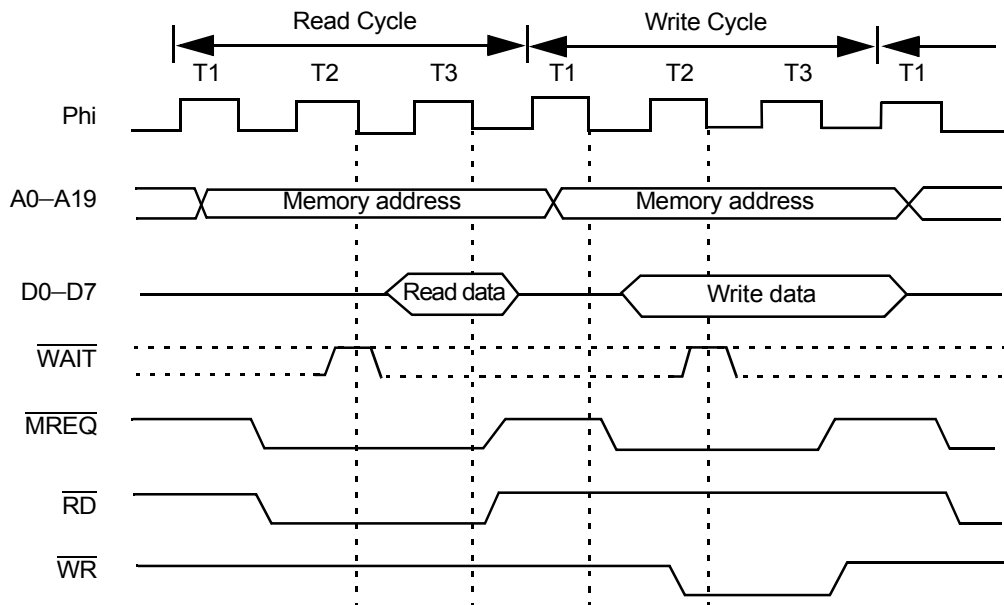

Figure 11. Memory Read/Write (without Wait State) Timing Diagram
Wait States (TW) are inserted as previously described for Op Code fetch cycles. Figure 11 illustrates the read/write timing without Wait States (Tw), while Figure 12 illustrates read/write timing with Wait States (TW).